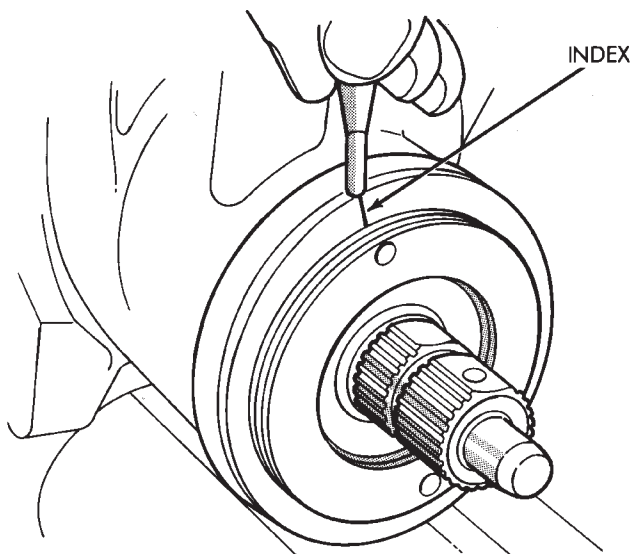

Fig. 27 Alignment Marking On Housing
(4) Turn the adjuster in with Spanner Wrench C-4381. Tighten the plug and thrust bearing in the housing until firmly bottomed in the housing about 34 N·m (25 ft. lbs.).
(5) Place an index mark on the housing even with one of the holes in adjuster plug (Fig. 27).